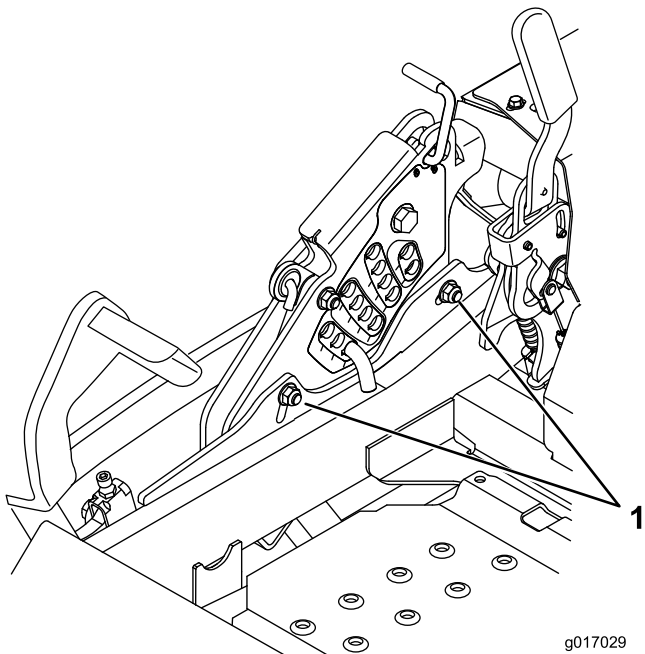

Figure 92
12. To adjust the single point system, loosen the two bolts at the bottom of the height of cut plate. Refer to Figure 92.
14. Tighten the two bolts at the bottom of the height of cut plate (Figure 92). Torque to 37-45 N-m (27-33 ft-lb).